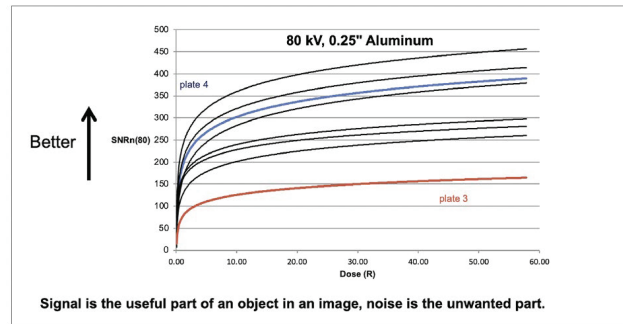

Figure 3: The effect of Dose Level on the signal-to-noise ratio values for the images described in Figure 2, from White [7] [8].
Figure 3 illustrates the signal-to-noise ratio normalized to a basic spatial resolution of 80 μm (SNRn(80)) as a function of dose level for an HR plate in a typical CR system. As the dose is increased, the normalized SNR rapidly improves and then levels off. The plate in Figure 1 was exposed at 80 kV and the SNRn(80) was plotted for a 0.25" thickness of aluminum.